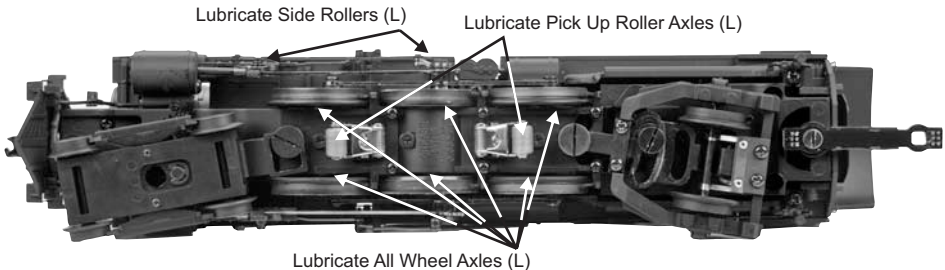

Fig. 1: Lubricating the Locomotive
You should lubricate the engine to prevent it from squeaking. Use light household oil and follow the lubrication points marked "L" in Fig. 1. Do not over-oil. Use only a drop on each pivot point.
1. Remove the center rail pickup roller assemblies as seen in figure 1 (page 3).